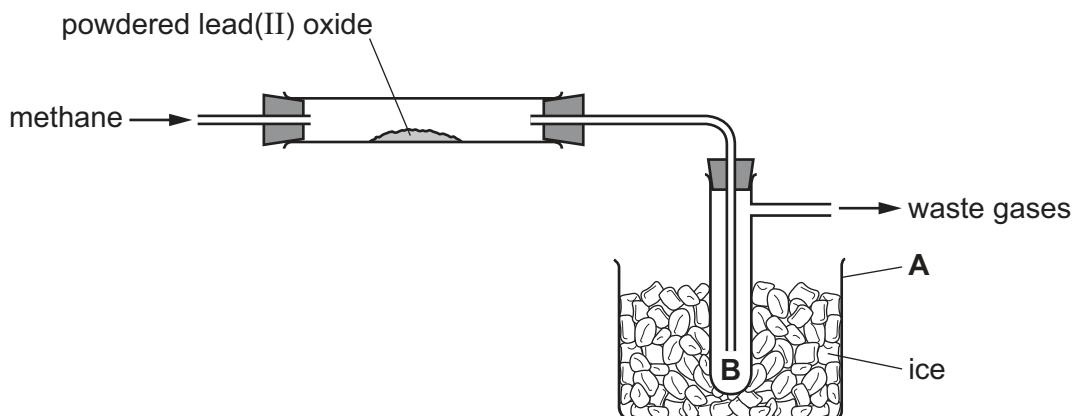

Fig. 1.1
Fig. 1.1 shows the apparatus used to reduce lead(II) oxide using excess methane.
(b) Draw an arrow on Fig. 1.1 to show where the apparatus should be heated. [1]
(d) Explain what happens at the point labelled **B**, on Fig. 1.1.